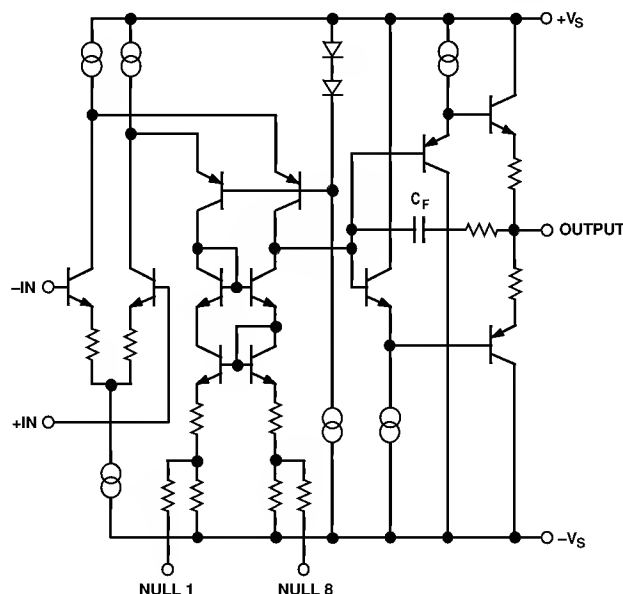

Figure 22. AD847 Simplified Schematic
The AD847 is fabricated on Analog Devices' proprietary complementary bipolar (CB) process which enables the construction of pnp and npn transistors with similar f_T s in the 600 MHz to 800 MHz region. The AD847 circuit (Figure 22) includes an npn input stage followed by fast pnps in the folded cascode intermediate gain stage. The CB pnps are also used in the current amplifying output stage. The internal compensation capacitance that makes the AD847 unity gain stable is provided by the junction capacitances of transistors in the gain stage.